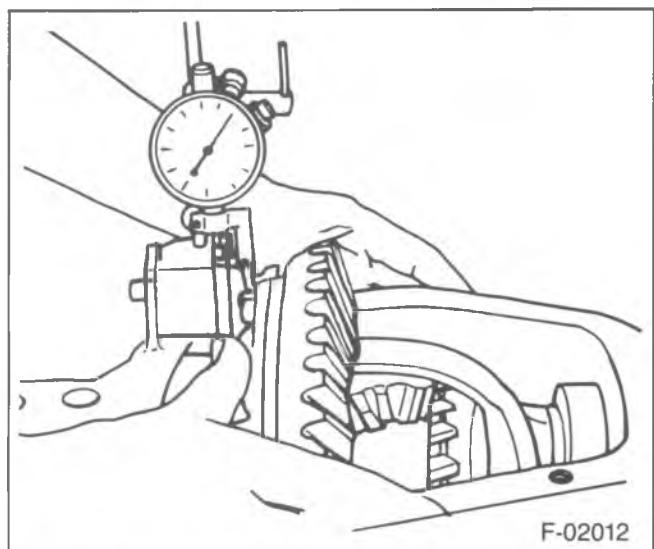

Figure 61—Measuring Differential Movement
1. Assemble the differential case (22) with master bearings installed to the axle housing. The pinion must be installed.
2. Mount a dial indicator having a minimum travel of 5 mm (0.200-inch) with a magnetic base on the ring gear bolt side of the housing (figure 61).